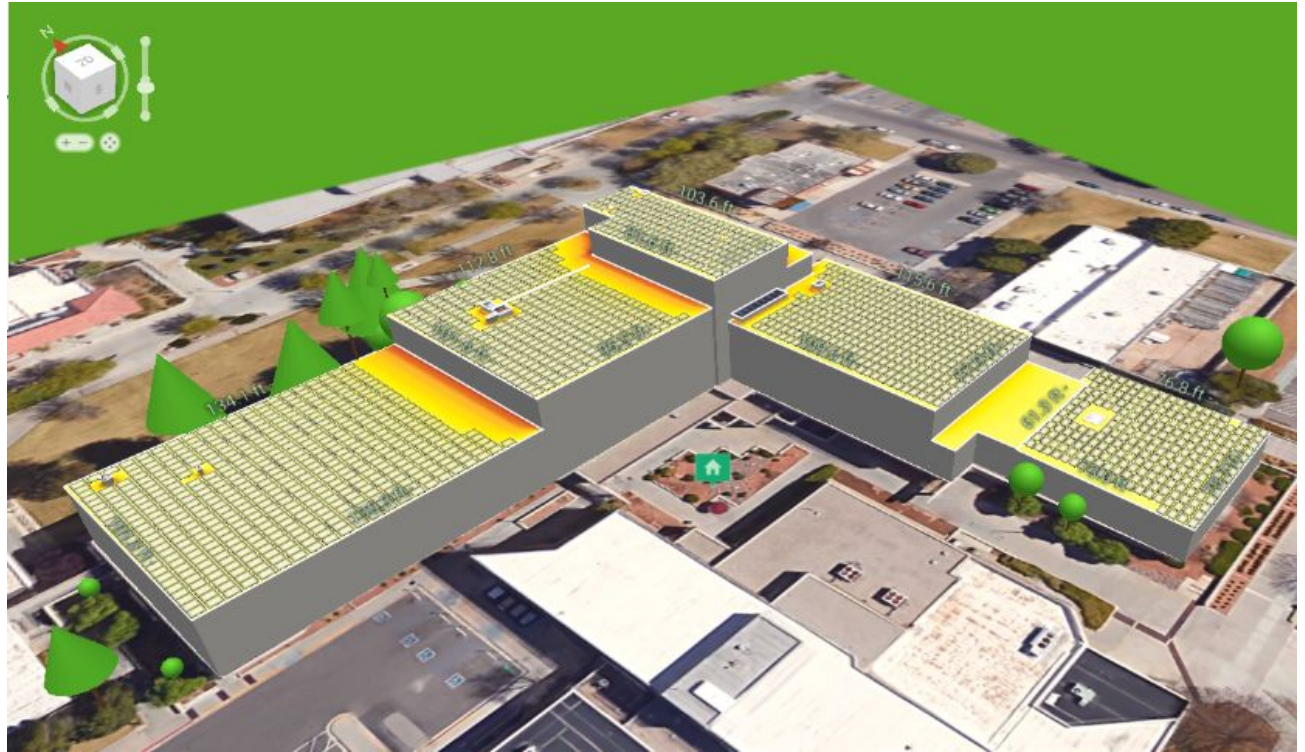

Figure 4: Science Hall Design
- c. Science Hall [Figure 4]
- a. Irradiance profiles [Figure 4]